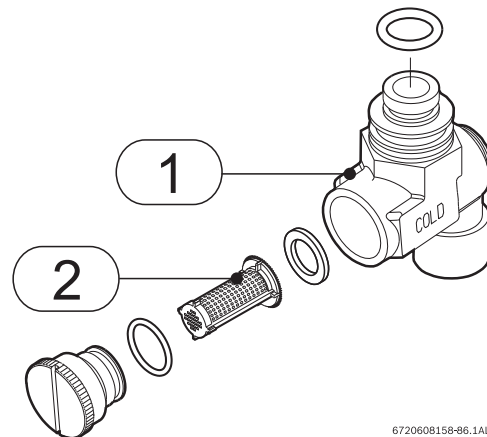

Fig. 53 Water filter
- Verify the inlet filter screen is clean and undamaged. The inlet water filter is located inside the cold water inlet fitting on the right side of the appliance (See Fig. 53, page 32). Close installer supplied cold water shutoff and loosen slotted screw on inlet fitting. Water will drain from the appliance. Remove cylindrical filter inside.